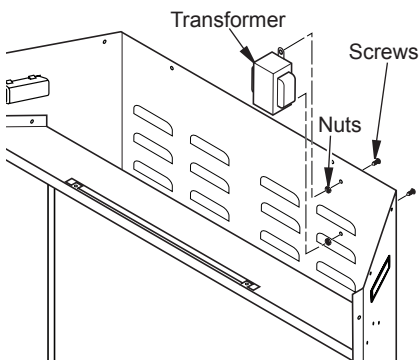

Figure 15 - Removing Transformer
3. Remove screws and nuts from firebox surround to remove transformer (see Figure 15).